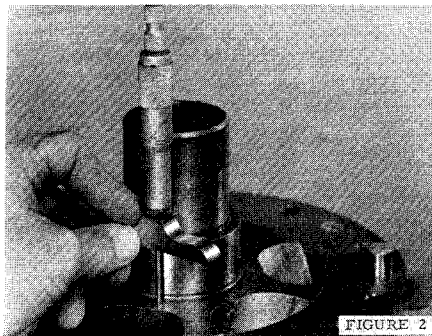

FIGURE 2
2. Block the compressor upright, Figure 2. Remove all gear end cover to cylinder cap screws. With two (2) jack bolts – one each side, Figure 2, jack the cover from the dowel pins. Tighten jack bolts evenly to prevent binding on the dowel pins and damage to the gears. Remove cover with care. Drive shaft assembly with drive gear, shaft seal and bearings will slide off with the gear cover; driven gear will remain on the main rotor shaft.
2. With a depth micrometer measure from the shoulder of the shaft to end of rotor, Figure 2. Make this measurement on both rotors and record each measurement under main rotor and secondary rotor.